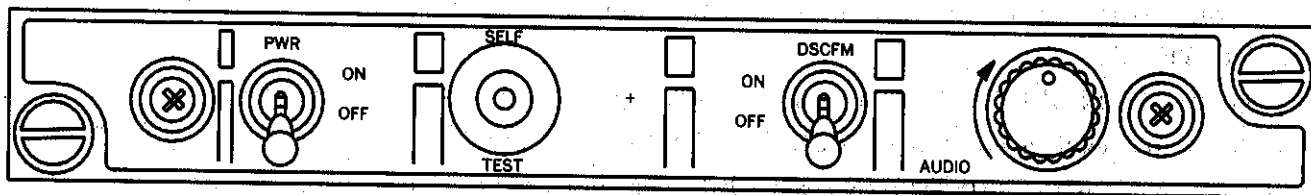

Figure 1. Control Panel, Front View
Figure 1 shows front view of control unit. The control unit is mounted on the cockpit console.
2. Set PWR switch (figure 1) to ON, and allow a minimum of 30 seconds for equipment to become fully operational.